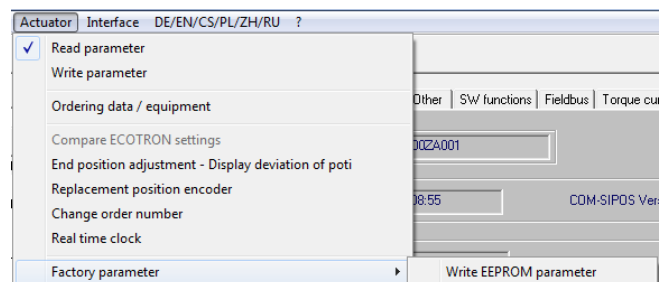

Fig. 3: Write actuator parameters
6. **Write actuator parameters of the original actuator to replacement electronics.** Upload complete actuator parameters via "Actuator" menu, "Factory parameter" submenu, "Write EEPROM parameter" menu item, see Fig. 3.